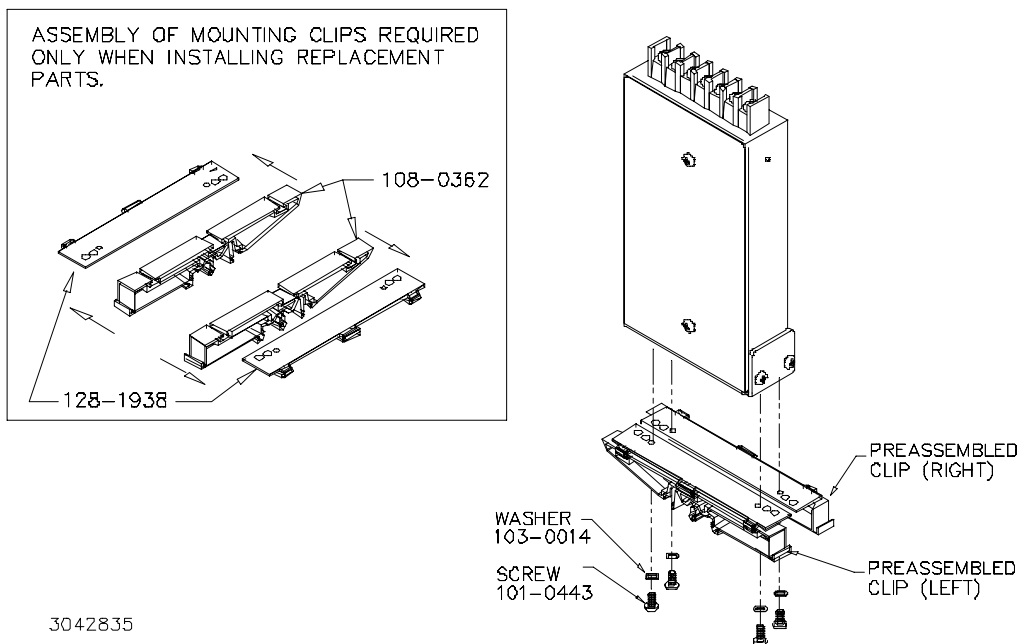

FIGURE 3. INSTALLING CLIPS ON MOUNTING BRACKET
3. **INSTALL CLIPS.** Attach preassembled mounting clips into the mounting bracket holes using hardware supplied (see Figure 3).